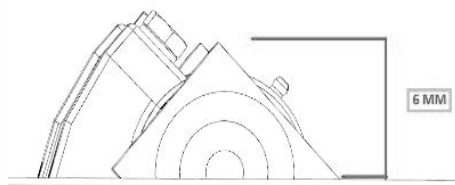

Figure 45: Crank of Front Hayfork
- Front hayfork crank must be 5 or 6 cm from its corner to safeguard (Figure 45).